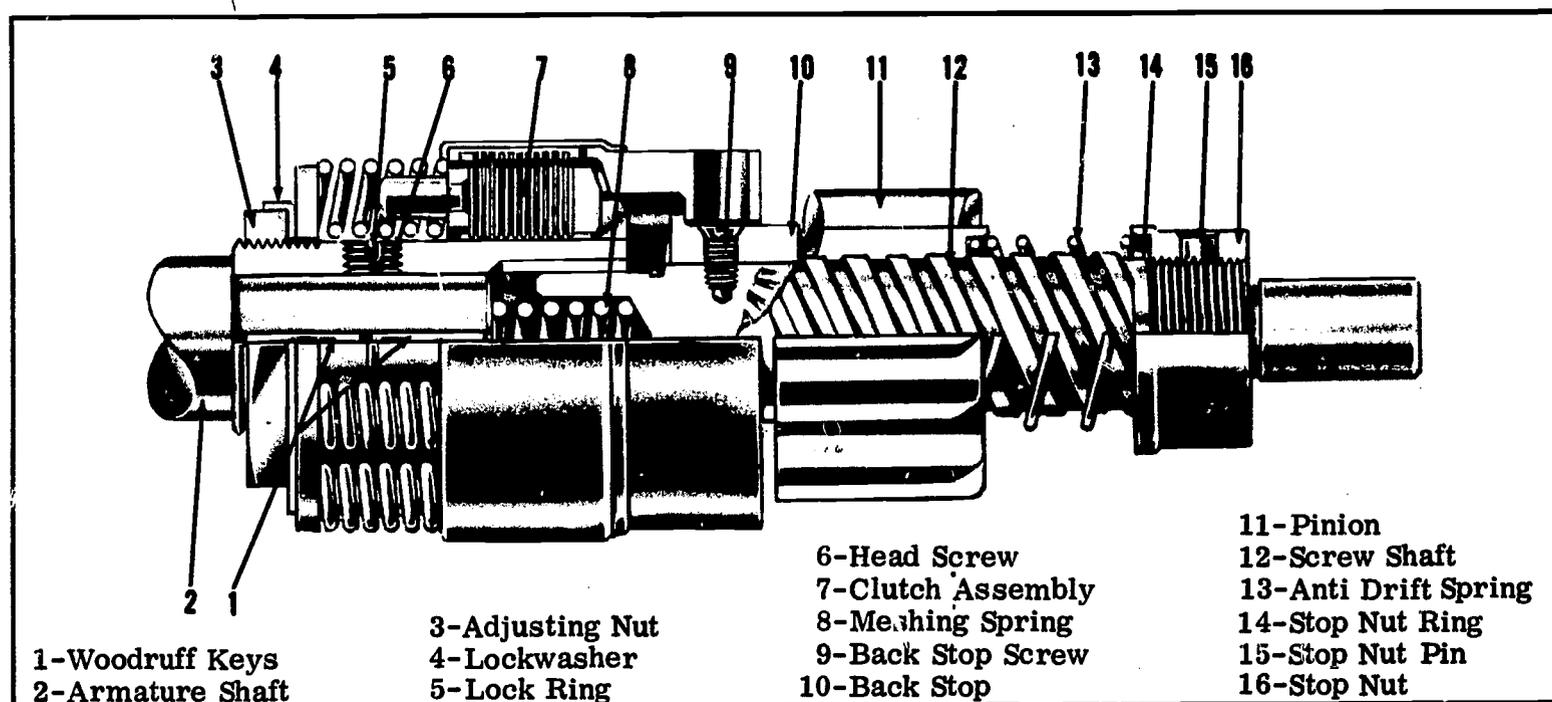

Fig. 8 Cutaway view of a Bendix Drive Assembly.
When the starter (whether it be gasoline, air or electric), is not operating, the pinion gear is in the position shown in Figure 8, demeshed from the engine flywheel ring gear. As soon as the starter is actuated, the rotor or armature begins to rotate, picking up speed rapidly. The shaft assembly picks up speed with the rotor inasmuch as it is driven through the drive spring. However, the drive pinion, being a loose fit on the shaft assembly, does not pick up speed instantly. The result is that the shaft assembly turns within the pinion, forcing the pinion endwise along the shaft and into mesh with the flywheel ring gear. As the drive pinion reaches the pinion stop on the end of the shaft assembly, it can move out no further and it must then rotate with the shaft assembly and starter drive shaft so that the engine flywheel is turned and the engine is cranked. The drive spring compresses slightly to take up the shock of engagement.
**BENDIX DRIVE CHECK** - Hold the drive in your hands with the fingers extending over the front end of the clutch and squeeze it. By doing this, the meshing spring (Item 8, Figure 8) should be compressed inside the clutch housing. If the spring cannot be compressed, sufficient wear or damage has occurred to render the clutch inoperative and the clutch assembly should be replaced.